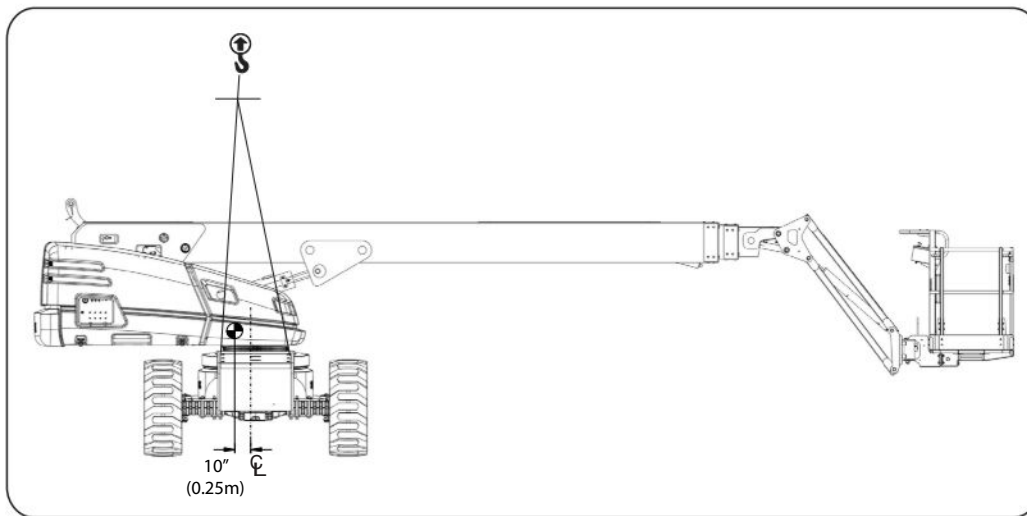
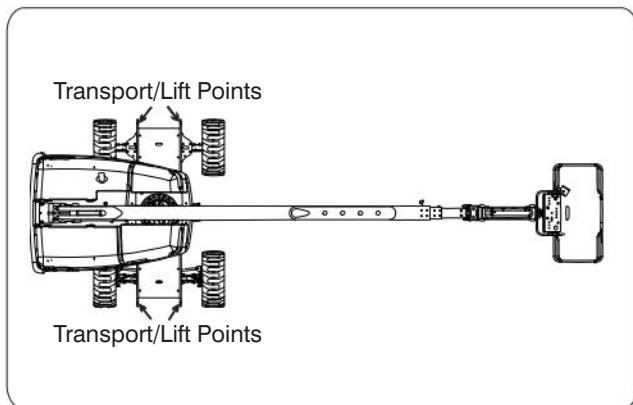

Figure 3-15. 61/66T Center of Gravity
Figure 3-16. 61/66T Overhead View Lifting Points
1. Rotate the boom and position the aerial platform as shown in Figure 3-15 and Figure 3-16..
**When lifting the aerial platform, lifting devices must be attached to designated lift points only (refer to Figure 3-16 and Figure 3-17).**
4. Properly adjust rigging to ensure aerial platform remains level during lifting. See Center of gravity location (Figure 3-15).